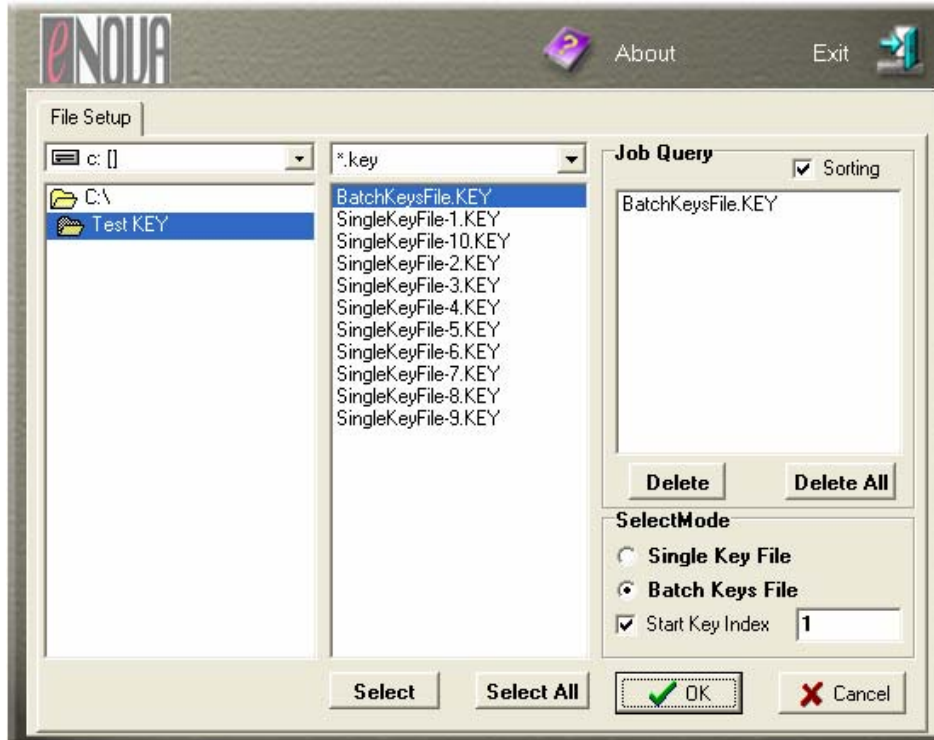

Figure 23. Load Batch Keys File
- (c) As shown in Figure 23, click  to load the key file. Check the “Batch Keys File” item in the “SelectMode” option. You may also specify the